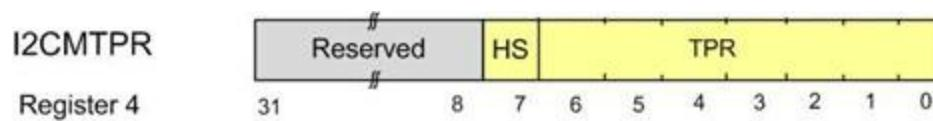

Figure 9-12: I2CMTPR, Offset 0x0C
The I2CMTPR (I2C Master Timer Period) register allows us to set the clock rate for the SCL. The SCL clock comes from the system clock and goes through clock divider circuit controlled by I2CMTPR register. The I2C standard defines four clock speeds for the SCL. They are Standard mode of 100Kbps (bits per second), Fast mode of 400Kbps, and Fast Plus mode of 1Mbps. There is also a High-Speed (HS) mode which can be as high as 3.3Mbps. The lower 7 bits (D6-D0, TPR) of I2CMTPR register are used to set the I2C clock speed. See Figure 9-12.